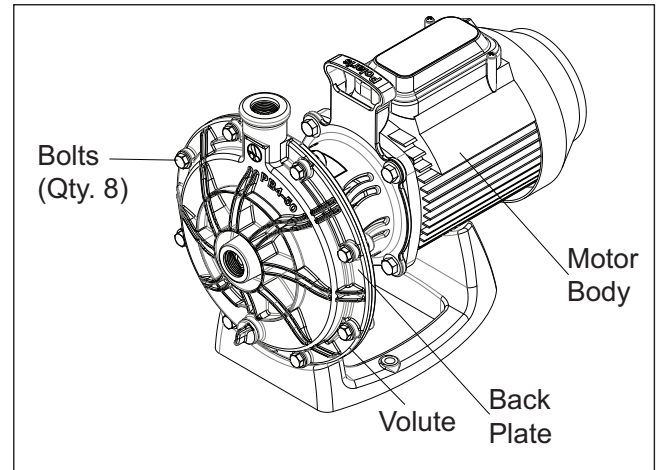

Figure 7. Remove the Pump Volute
3. Using a 9/16" wrench, loosen the bolts connecting the pump volute to the motor backplate. See Figure 7.
5. Remove the motor shaft cover on the back of the motor by twisting the hex-head screw with a 90° crescent wrench. See Figure 7. The motor shaft will be exposed.